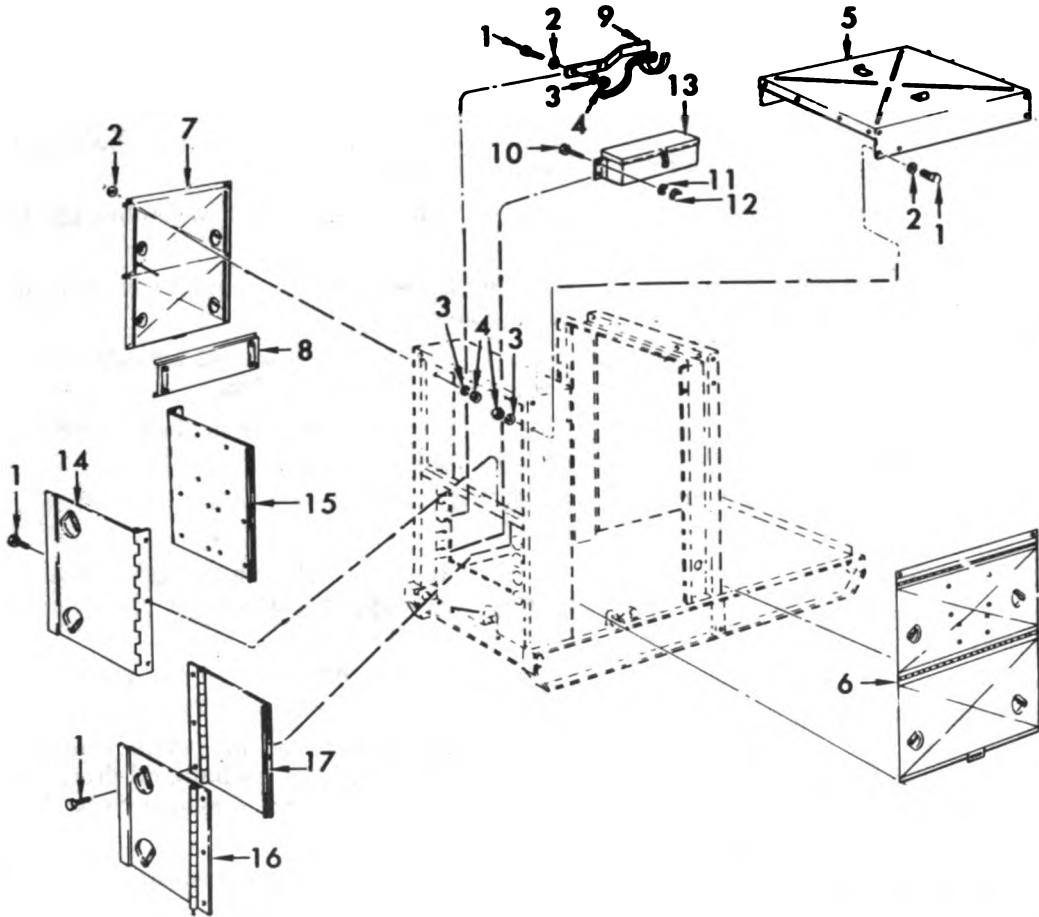

Figure 13-3. Generator Doors and Hood, Removal and Installation
- (24) Remove screws (1, fig. 13-3), washer (2), washers (3) and nuts (4) and remove generator RH door (6), LH door (7), hood (5), left rear side panel (8) and stowage rack (9).
- (25) Remove bolts (10), washers (11) and nuts (12) and remove toolbox (13).